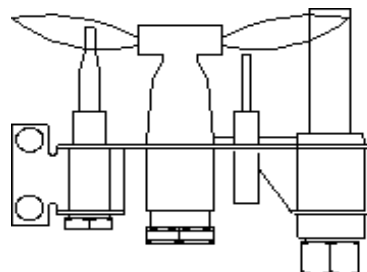

Figure 20. Pilot Burner
2. Adjust pilot key to provide properly sized flame. (See figure 20).